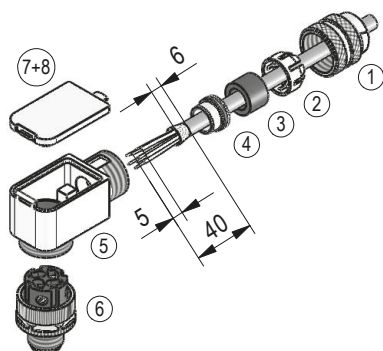
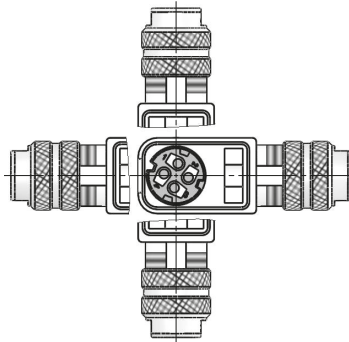

Fig. 9: Right angle mating connector M12
Fig. 10: Angled positions
- Accessory SIKO art. no. "87600" M12 D coded (plug pin 4 pole Ethernet Port 1 (IN) + Port 2 (OUT)) (Fig. 9, Fig. 10).
Mounting (Fig. 9)
Changing the angle position (Fig. 10)